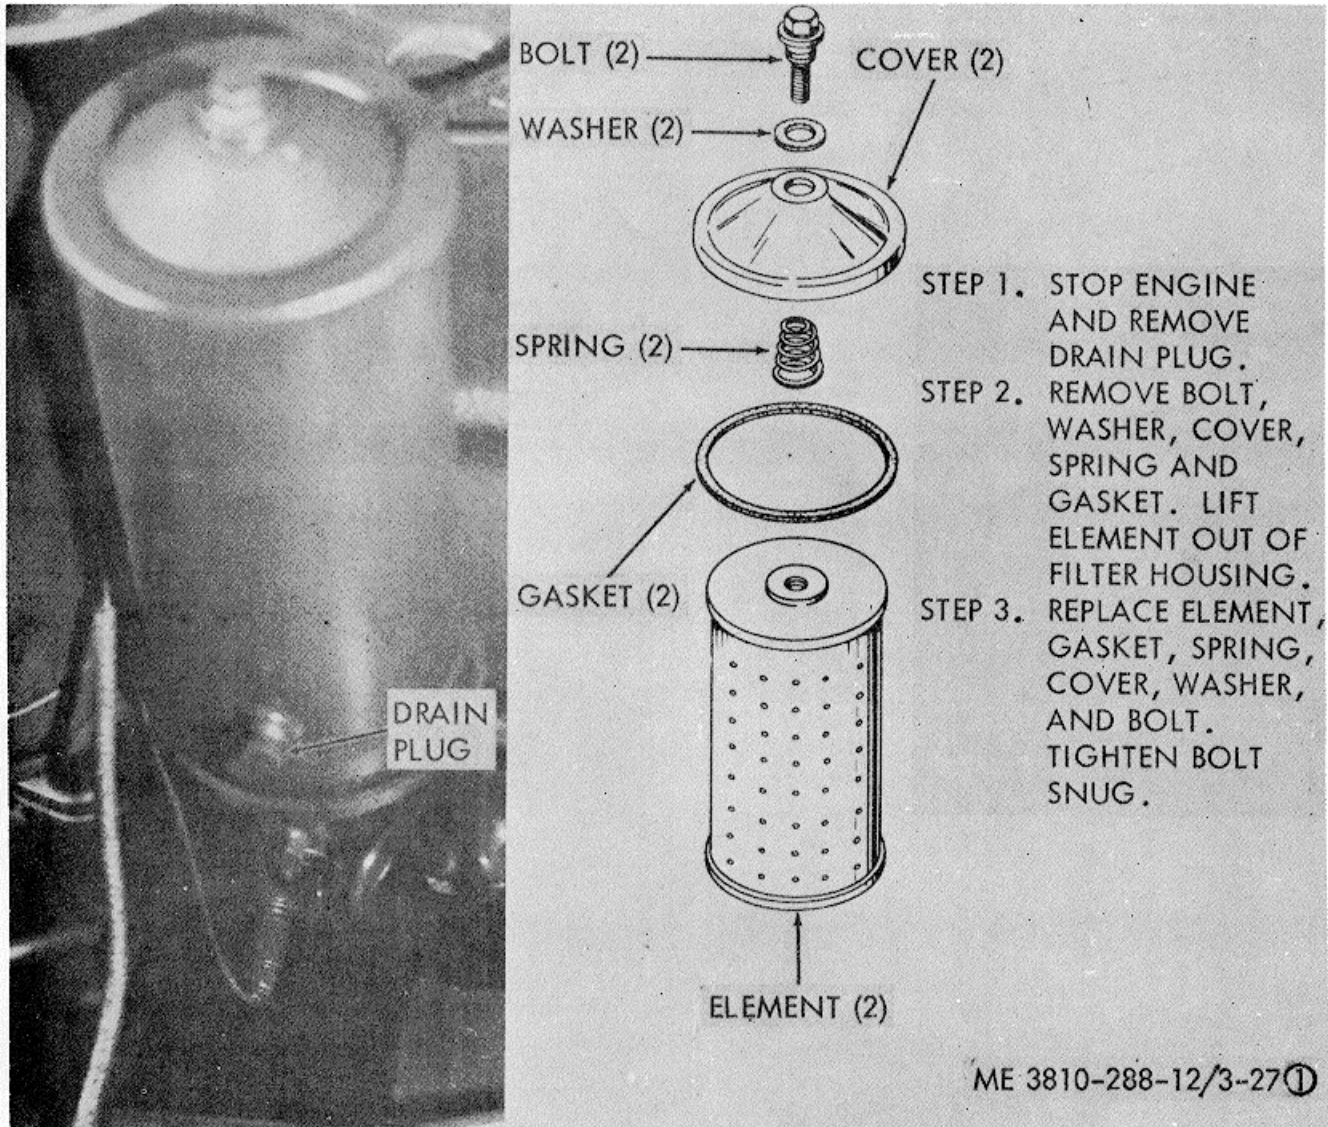

Figure 3-27. Oil filter, service and replacement. (Sheet 1 of 2)
(1) *Service.* Inspect the exterior of the oil filter for leaks or visible signs of damage. Clean the filter housings and tighten any loose connections. Refer to figure 3-27 and service the oil filter.
(2) *Replacement.* To replace the entire oil filter as a unit, refer to figure 3-27, the exploded view portion, and proceed as follows: With the oil drained as described in